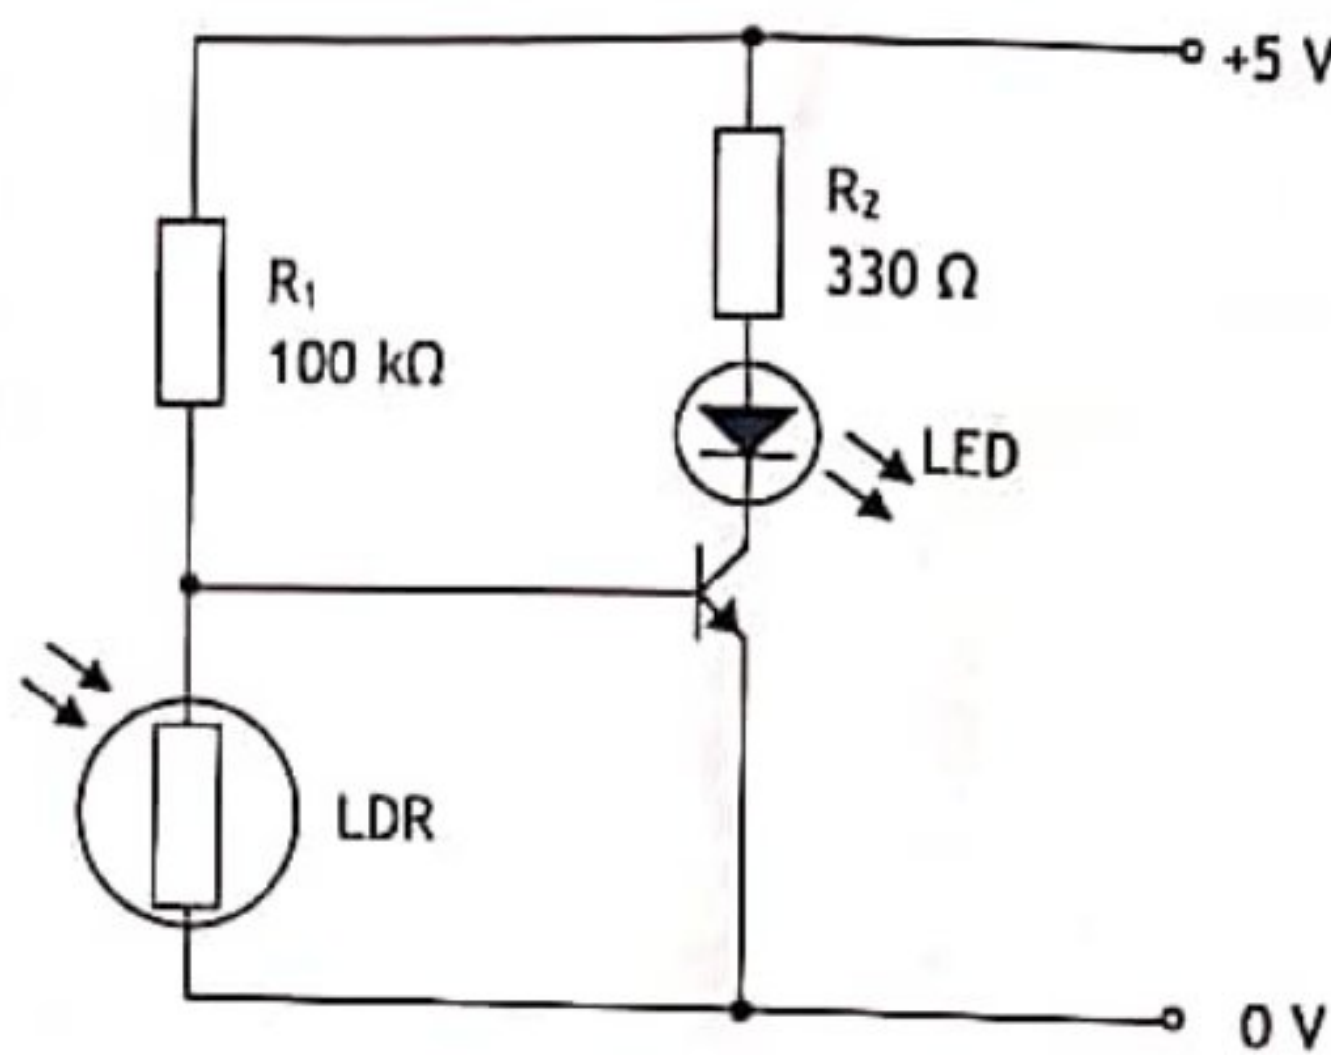

Fig Q9
9. Fig Q9 shows a flame failure detector circuit which uses a light dependent resistor LDR, a light emitting diode LED, and a transistor switch. When the transistor is FULLY ON the collector current is 10 mA., the base current is negligible and the collector-emitter voltage V_{CEsat} is 0.15 V.
- (a) Explain the operation of the circuit. (4)
- (b) Calculate the minimum LDR resistance at which the transistor turns on. (3)
- (i) the voltage across the LED; (4)
- (ii) the power supplied to the circuit. (4)
- (d) Describe the change in circuit operation if the positions of LDR and R_1 are swapped. (1)